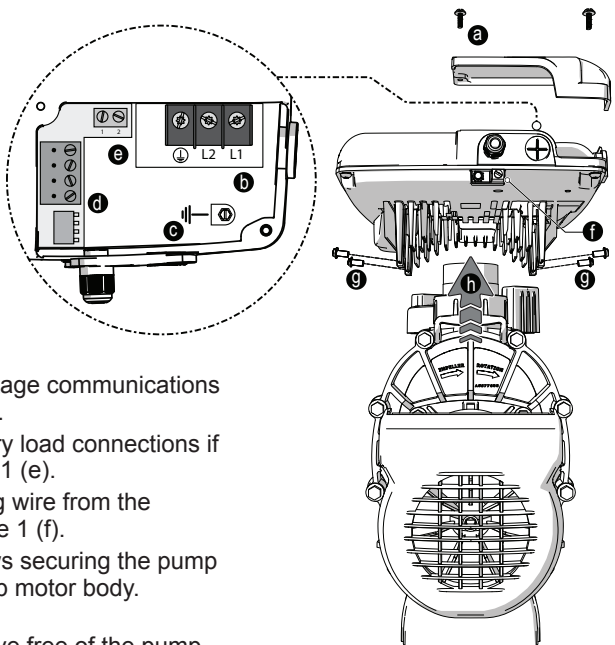

Figure 1. Remove Motor Drive
2. Remove the 2 screws securing the junction box cover. See Figure 1 (a).
3. Disconnect the high voltage connections. See Figure 1 (b).
4. Disconnect the ground wire. See Figure 1 (c).
5. Disconnect the low voltage communications wires. See Figure 1 (d).
6. Disconnect any auxiliary load connections if applicable. See Figure 1 (e).
7. Disconnect the bonding wire from the bonding lug. See Figure 1 (f).
8. Remove the four screws securing the pump motor drive to the pump motor body. See Figure 1 (g).
9. Lift the pump motor drive free of the pump motor body being careful not to strain or damage any wiring or plumbing connections. See Figure 1 (h).
2. Install the 4 screws to secure the pump motor drive to the pump motor body. See Figure 1 (g)